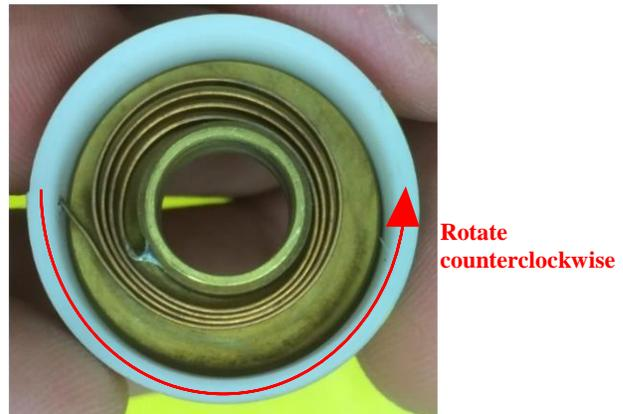

Figure 5
- 3.3 Turn the plastic ring in the counterclockwise direction and release to verify that the InGage is working properly. (Figure 5)